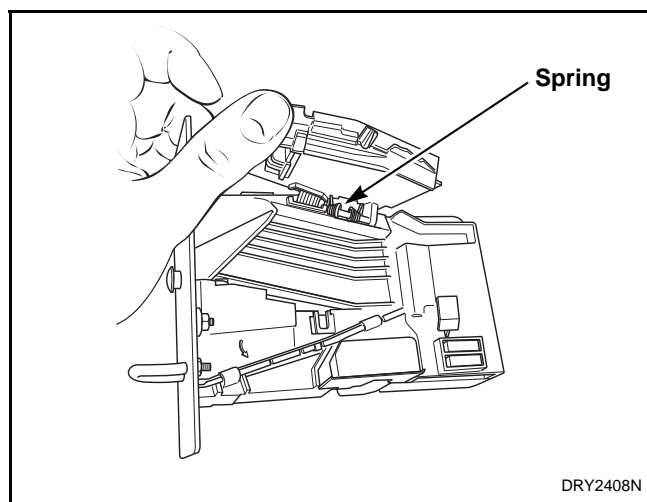

Figure 9
- Open cover of coin drop. Refer to *Figure 9*.